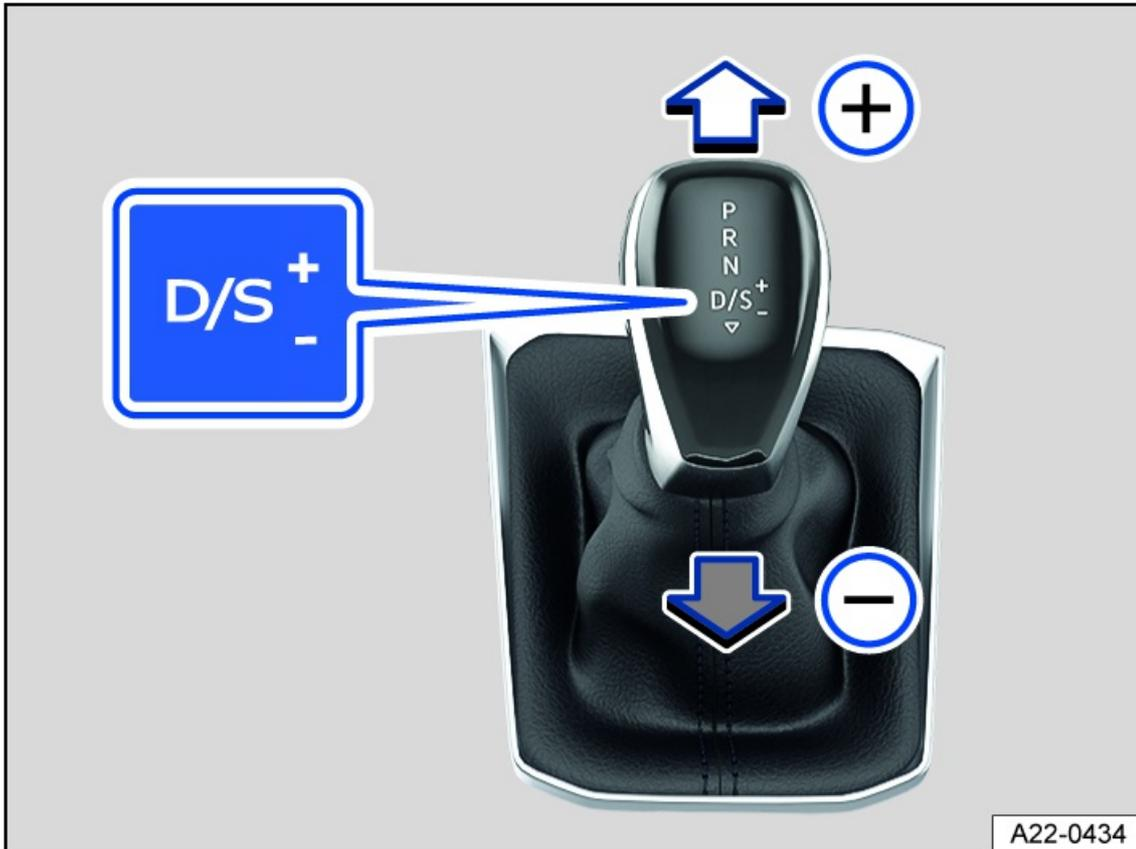

Fig. 96 In the center console: selector lever in the tiptronic position.
2. Tap the selector lever forward  or to the rear  to upshift or downshift *fig. 96*.